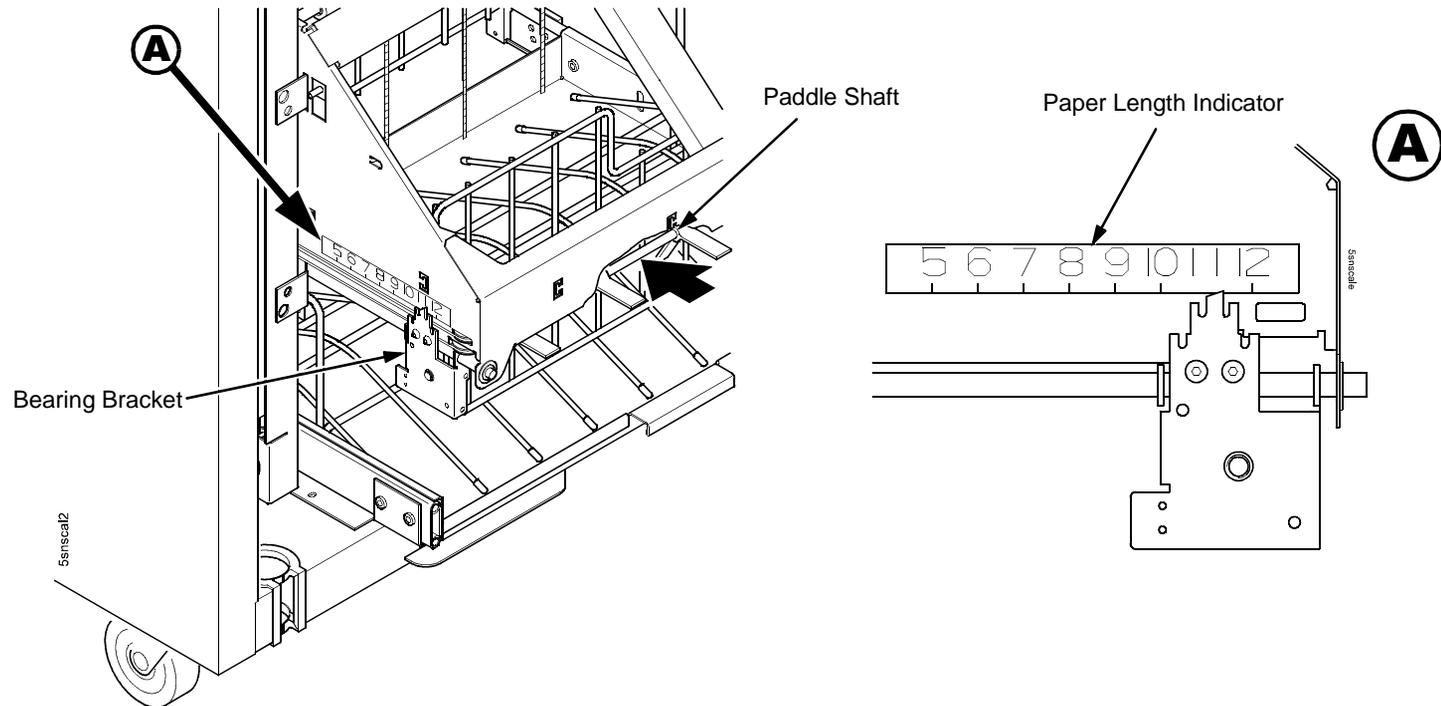

Figure 74. Setting Paper Length
6. Push or pull the paddle shaft toward the front or the rear of the printer and set the paper length by aligning indicator notch on the bearing bracket with the paper length indicator. (Length range: 5 to 12 inches.) (Figure 74.)